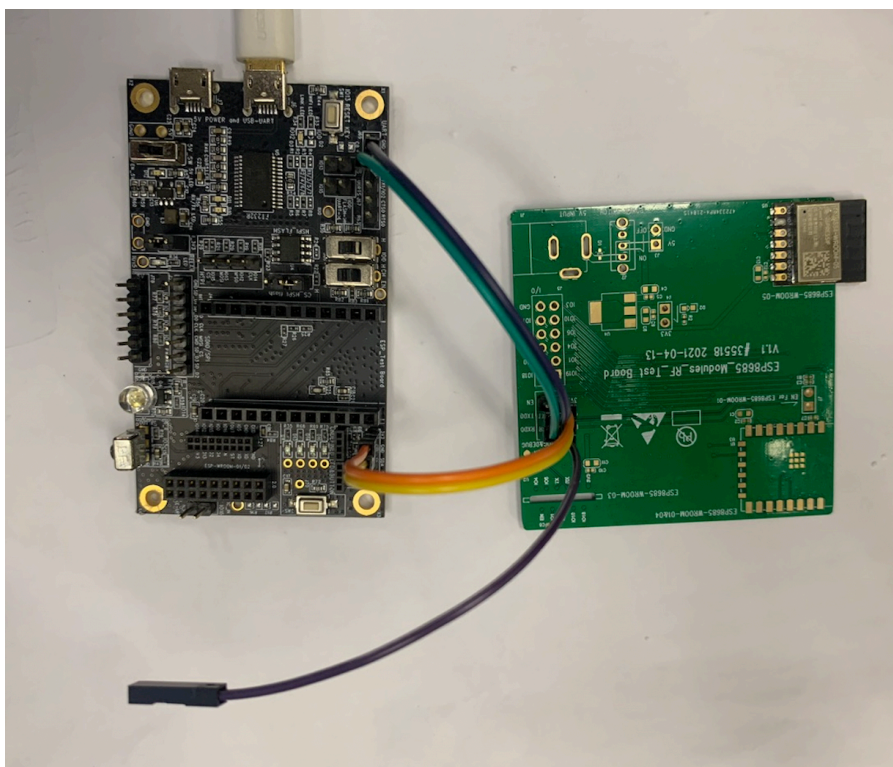

Figure 2: Hardware Connection
1. Solder the ESP8684-WROOM-05 module to the RF testing board as shown in Figure 2.